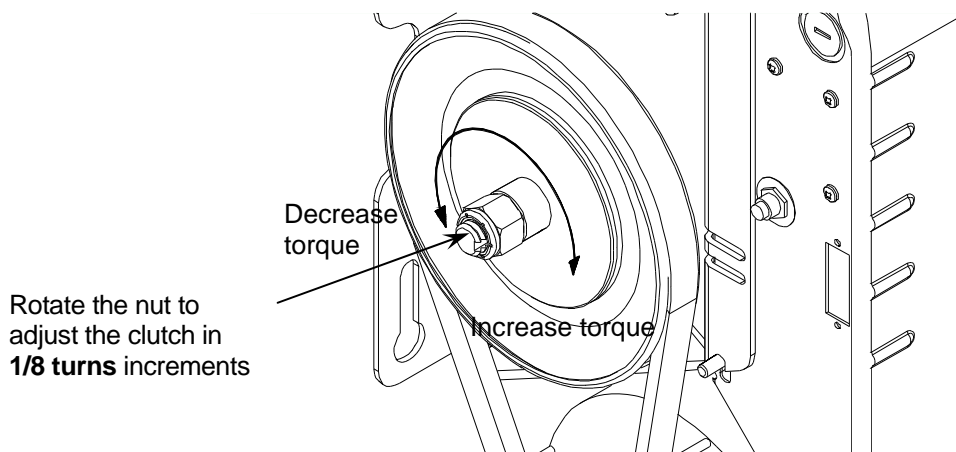

Figure 17 Clutch adjustment
1. Adjustment of clutch is done by rotating the nut located at the end of the input shaft where the pulley 7" is located (Figure 17).
3. The automatic hoist engagement system is adjusted in the factory. It may require adjustment in the field. Adjustment is necessary if no door movement occurs after two fetes of pulled hand chain. Turn the adjusting nut clockwise (see figure 17) by ¼ turn until the hoist engages after pulling one foot of chain. If the nut is too tight, the manual torque on the chain will be too heavy.